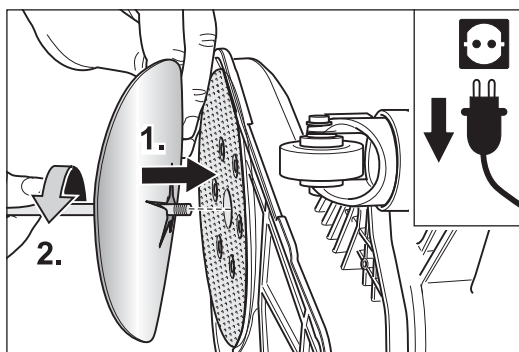

Fig. 14 Mount the new sanding disc (1.) and tighten the screw (2.).
- 6 Put on a new sanding disc and insert the screw with the paper tensioning disc into the hole of the sanding plate (Fig. 14, 1.).
- 7 Turn the screw in the sanding plate with the universal spanner (Fig. 14, 2.). Make sure that the sanding disc is as centred as possible on the sanding plate.